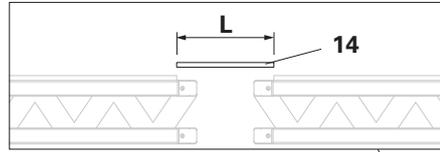

Fig. A4.01.1
For smaller compensations with plywood sheeting (14) which rests on both tables. (Fig. A4.01.1)